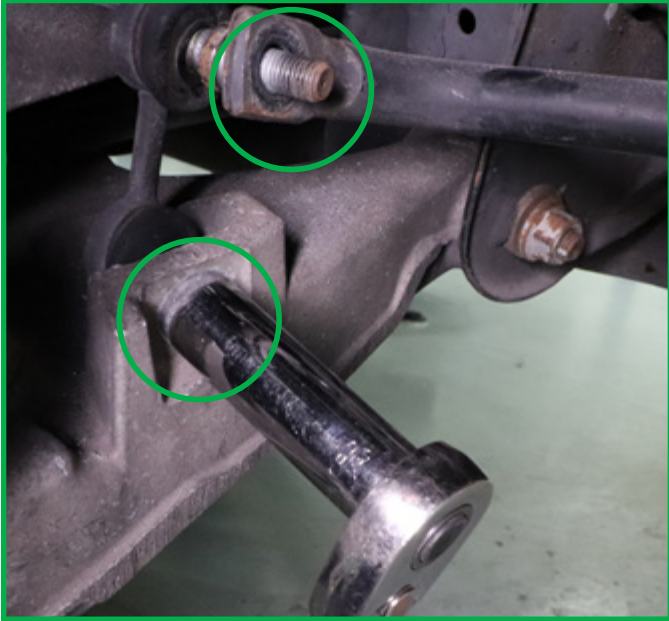

FIGURE 27
1. Remove sway bar link. (Figures 27, 28)